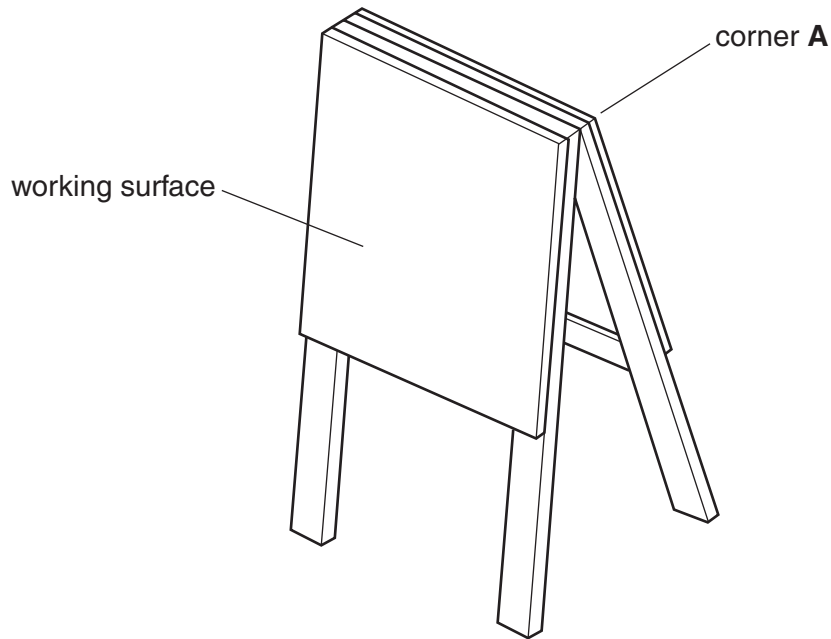

Fig. 4
- 3 Fig. 4 shows a child's easel made mainly from wood. It consists of two identical frames hinged at the top.